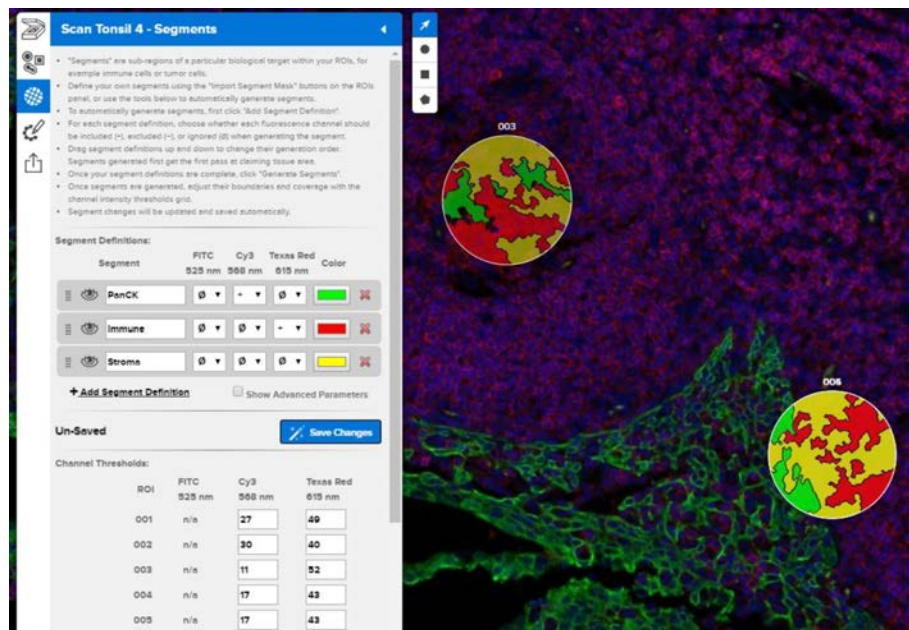

Figure 39: Segments generated in scan workspace
4. **Channel designations** : For each segment definition box, choose whether each **fluorescence channel** (FITC, Cy3, Texas Red, Cy5) should be included (+), excluded (-), or ignored (Ø) as part of the segment rule's definition \(see Figure 39\).